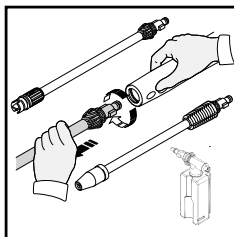

Fig. 25
- Wrap the power cord around the accessory holder using the extension tabs at the 3:00 & 9:00 position and the L-shaped power cord holder/tab located at the 6:00 position (Fig. 25).